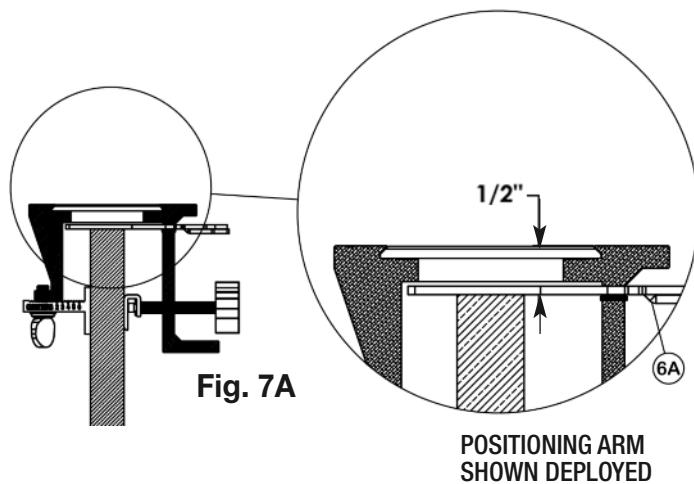

Fig. 7A
- When the stock is correctly mounted in the jig, its top edge will be $1/2"$ below the top (working) surface of the jig (Fig.7a).